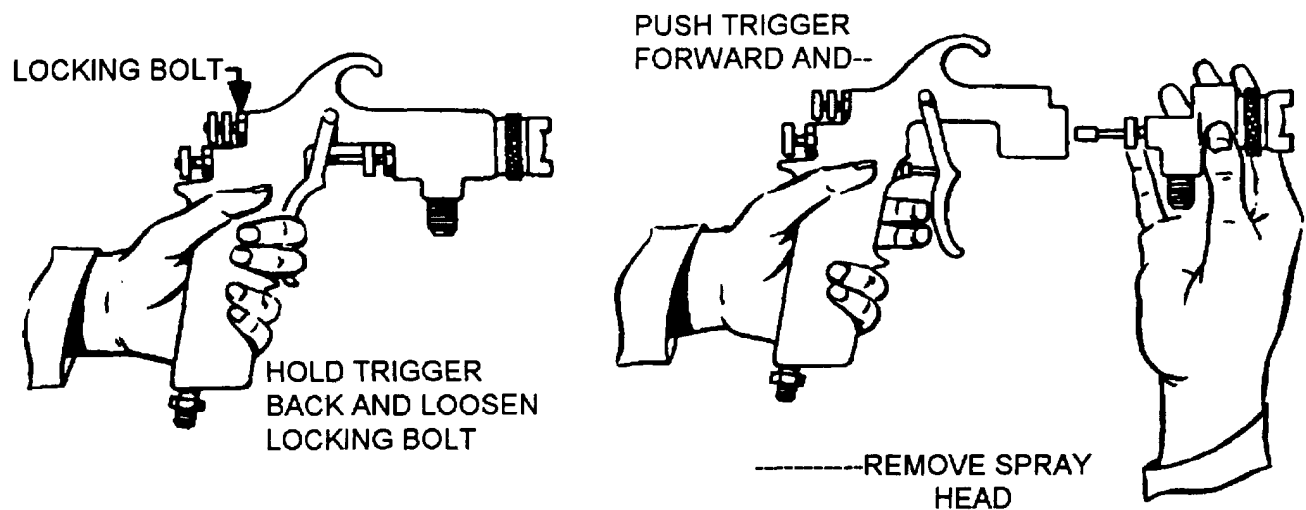

Figure 1-28.—Removing the spray head.
**Spray Head Removal.**— Removal of the spray head may be necessary for cleaning or repair. You may need to change the head when the color of the paint is changed. With modern spray guns, this is a fairly simple operation. Refer to figure 1-28 and follow the procedures in table 1-3.